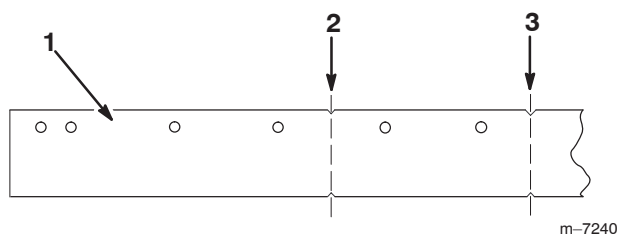

Figure 2
1. Locate the notches in the wiper as shown in Figure 2.
2. Trim the wiper at the second notch for models with 52 inch decks (Fig. 2).